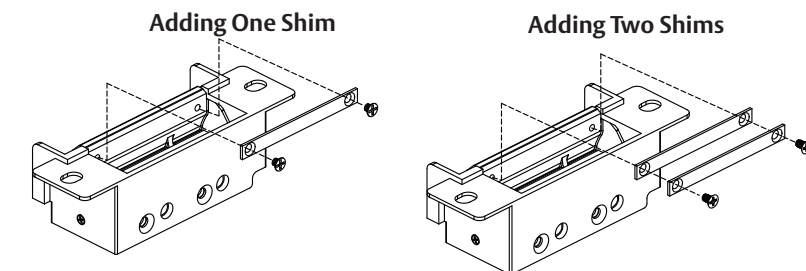

Figure 6: Horizontal Adjustment
16. IF horizontal adjustment is needed, THEN ADD 1 or 2 keeper shims as shown in Figure 6, "Horizontal Adjustment."